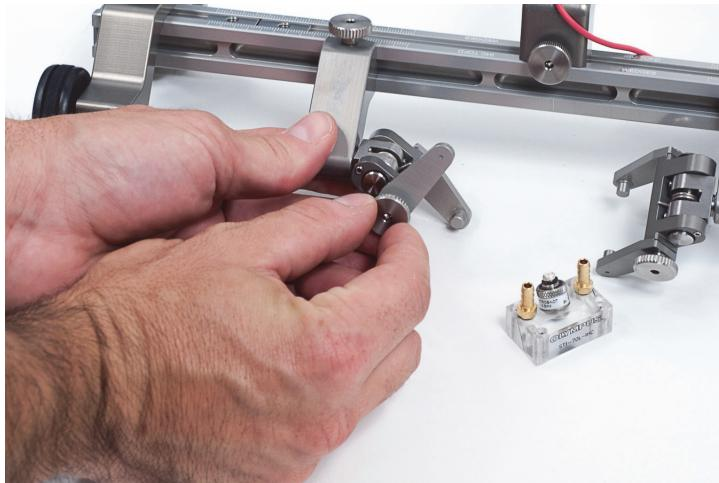

Figure 1-5 Loosening yoke thumbscrew
3. Loosen the yoke thumbscrew (see Figure 1-5 on page 22).